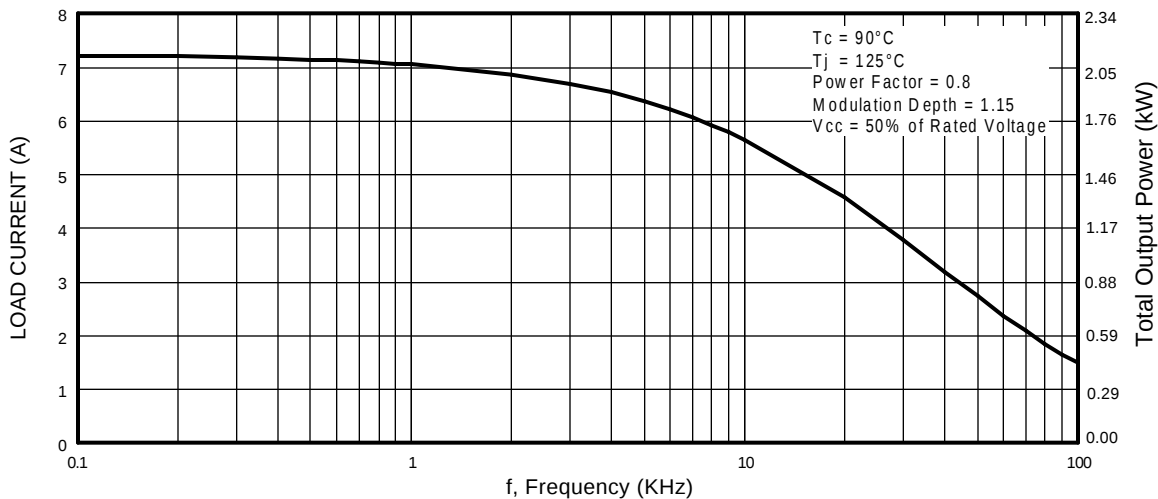

Fig. 1 - Typical Load Current vs. Frequency
- See Fig. 1 for Current vs. Frequency curve
4.6 A_{RMS} per phase (1.3 kW total) with T_C = 90°C, T_J = 125°C, Supply Voltage 360Vdc, Power Factor 0.8, Modulation Depth 115% (See Figure 1)